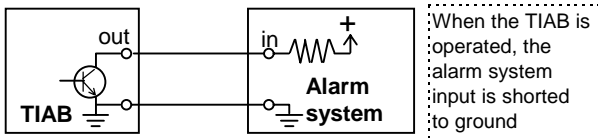

Figure 7 - "Open collector" Output Connection to an Alarm System
- Connect the **Panic** output (terminal 7), **AuxOut** output (terminal 6), **Door Ajar** output (terminal 4) and **Forced Entry** output (terminal 5) to the appropriate zone of the alarm system, or to any other indication (relay, LED, buzzer, etc.). These outputs are of the open collector type (see figure 7).